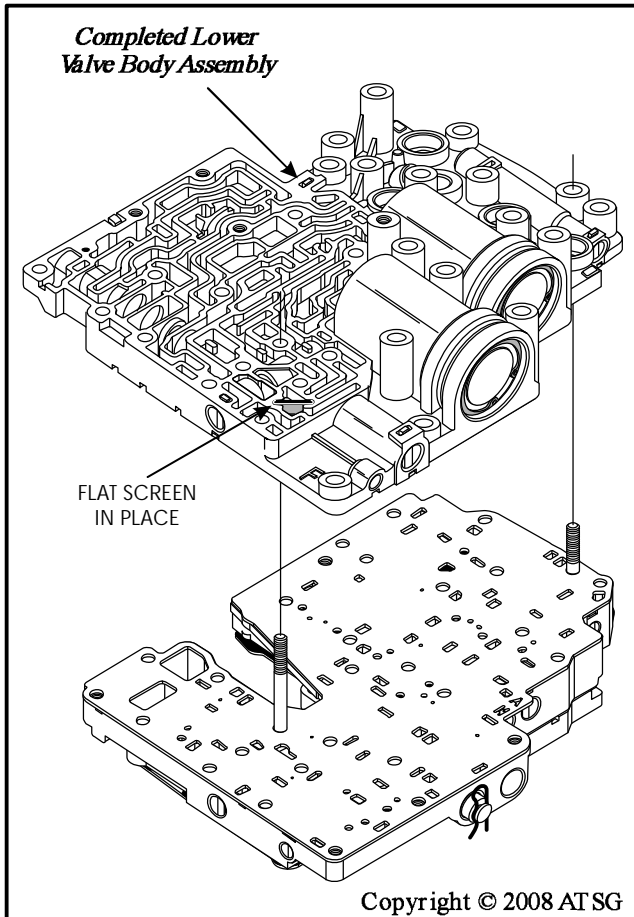

Figure 172
37. Install completed lower valve body assembly over the two bolts, on top of spacer plate "B", as shown in Figure 172, and ensure that flat valve body screen is still in place.